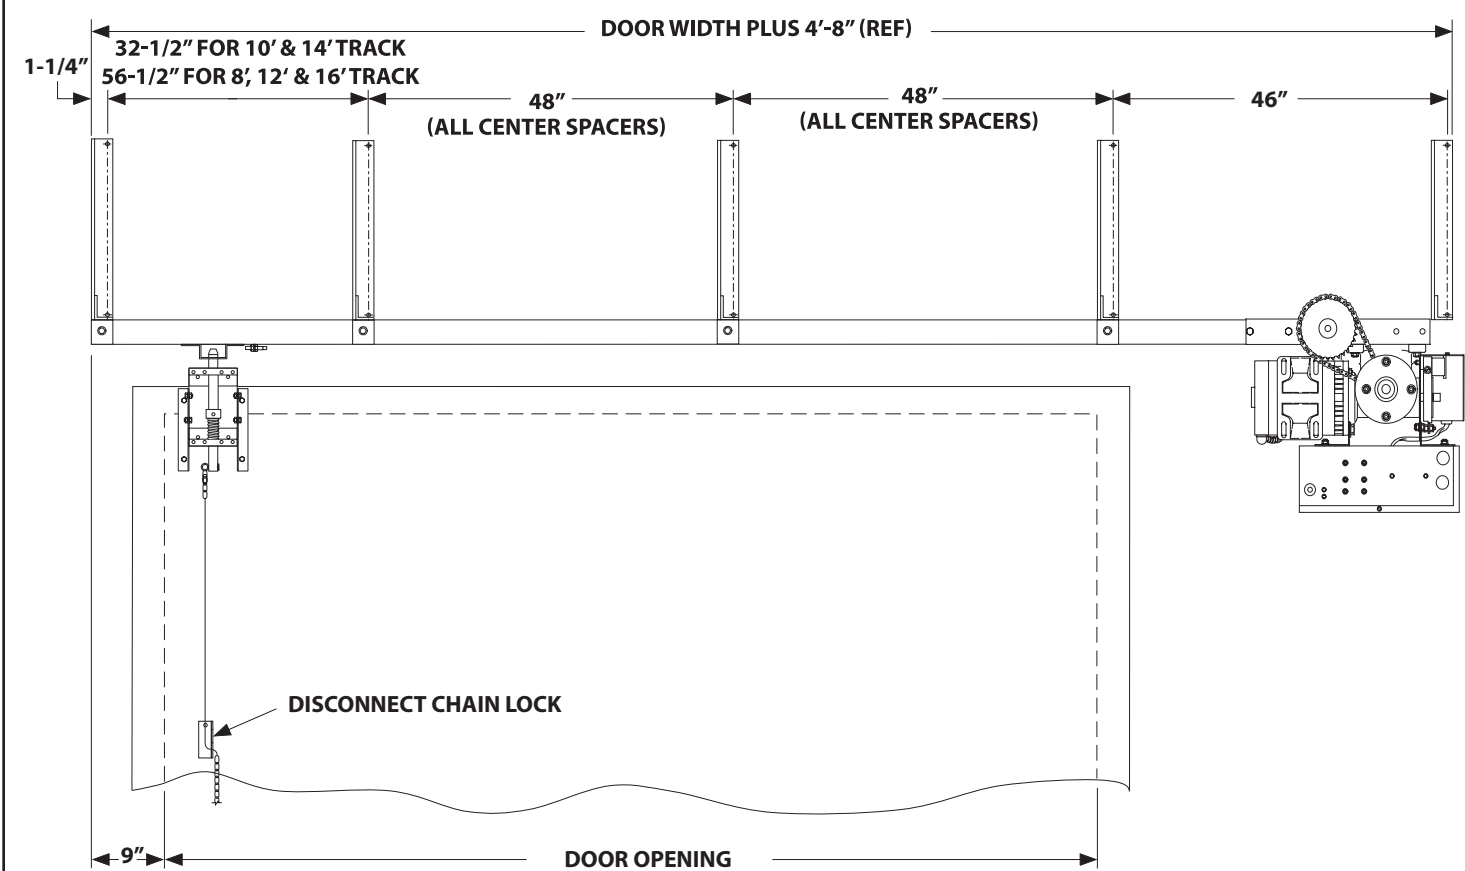

FIGURE 8
1. For single slide doors sliding right to open, locate first angle mounting bracket 9" to the left of the opening. For doors sliding left to open, locate first angle mounting bracket 9" to the right of the opening (See **Figure 8**).
4. Mount the disconnect mechanism so that the top of the bracket is no more than 2" below the slider carriage (See **Figures 8, 10, 11**). This mechanism may be adjusted both front and back and up and down to align the disconnect pin. It may be necessary to shim between the mechanism and the door to bring the pin out into the center line of the track.
3. Refer to **Figure 8**. Depress the Limit Nut Retaining Bracket away from the slots in the limit nuts. Turn the Close Limit Nut on the shaft until it engages the Close Limit Switch. The switch will sound an audible “click” when engaged. If there are auxiliary switches present, the limit switch will be the second “click.” Release the Retaining Bracket and be sure that it engages in slots of both limit nuts.